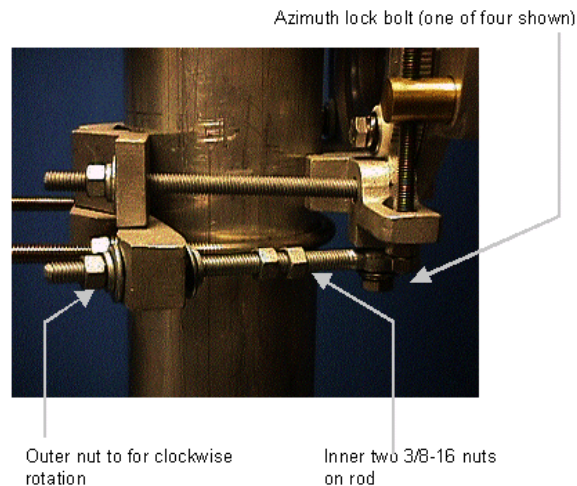

Figure 9-10: Clockwise Azimuth Adjustment
1. Referring to Figure 9-10, loosen the four azimuth lock bolts on the pole mount clamps.